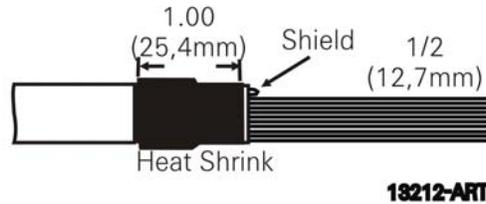

Figure 4-10: Eleven-Conductor DP Cable
- G Cut the Shield wire to a length of 1/2 inch (12,7mm) and pull it back against the PVC jacket. Slide 1 inch (25,4mm) long piece of heat-shrink over the cable as shown in Figure 4-10: Eleven-Conductor DP Cable.